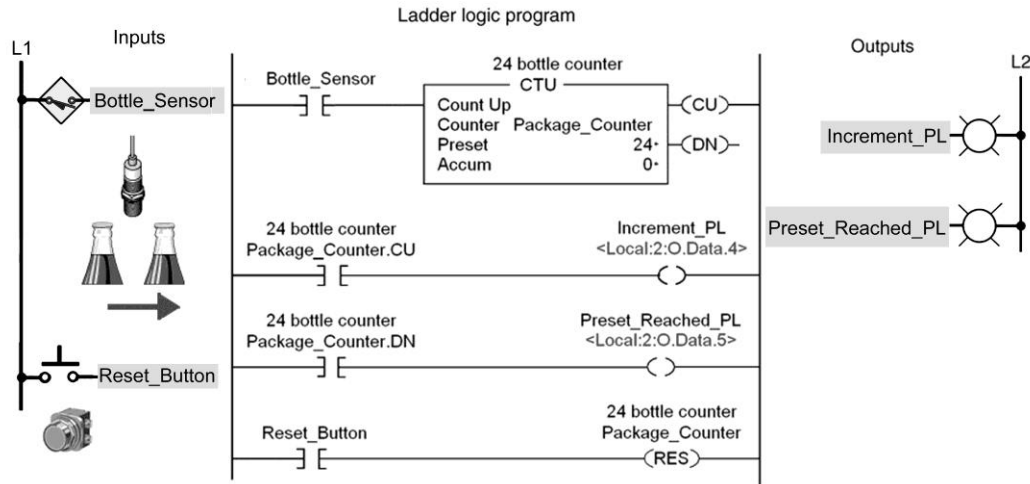

Figure 15-36 Count-up counter program for assignment 1.
1) The count-up counter program of Figure 15-36 is used to count packets of bottles and is described in the text.